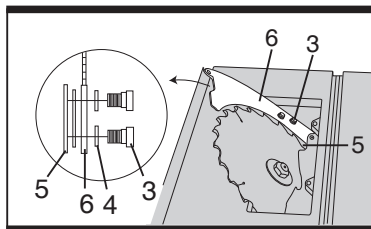

Fig 5
- 3) Place the bolts (3), and flat washers (4) on the riving blade (6) and the riving blade bracket (5).
- 4) Tighten the bolts (3) (See fig. 5).
- The riving blade thickness of 2.5 mm. Make sure the blade and riving blade are aligned on the same line. If not, adjust the riving blade by loosening the bolts. It should be less than 5 mm at all positions (See fig. 5).